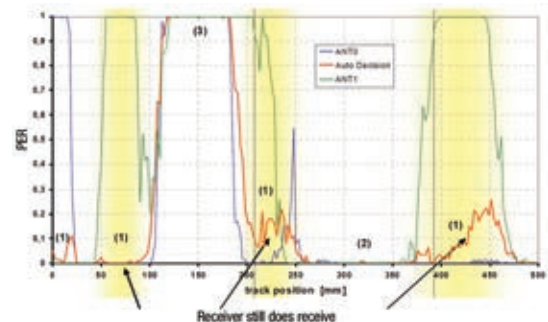

Figure 10: Antenna Diversity Validation Results
During the PER measurements, the transmit power of node 2 is adjusted (see Figure 10) to reduce the average received signal power to a value slightly above the sensitivity limit of -101 dBm. [1] This is necessary to illustrate the effect of deep fades and to create a reasonable average packet error rate.
A measurement illustrating the node-to-node performance using the packet error rate (PER) is shown in Figure 10. The result consists of three individual measurements:
The measurement result in Figure 10 shows that for scenarios of type (1), when one antenna is receiving while the other one doesn't, the resulting PER is still at an acceptable low level when using the AD algorithm.